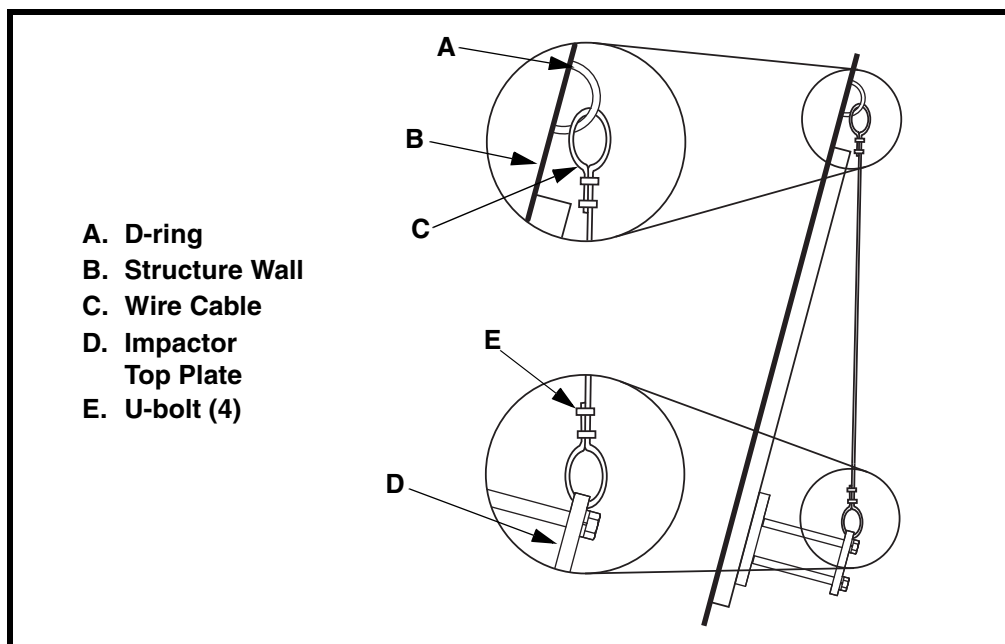

Figure 5. Installing Impactor Safety Cable
- a. Weld D-ring (A, Figure 5) onto structure wall (B) above impactor.
- b. Loop 1/8-in. (3 mm) wire cable (C) through hole in impactor top plate (D) and D-ring on structure wall.